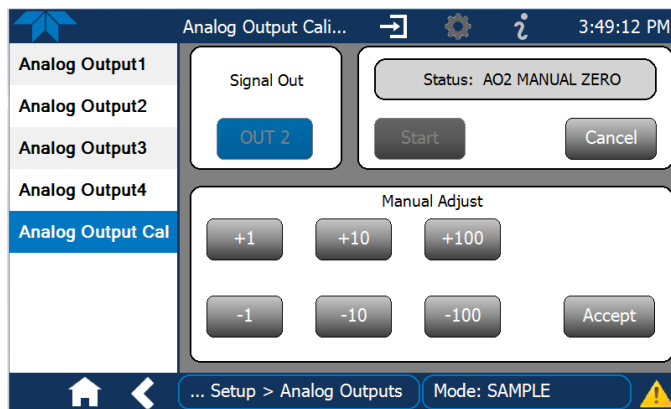
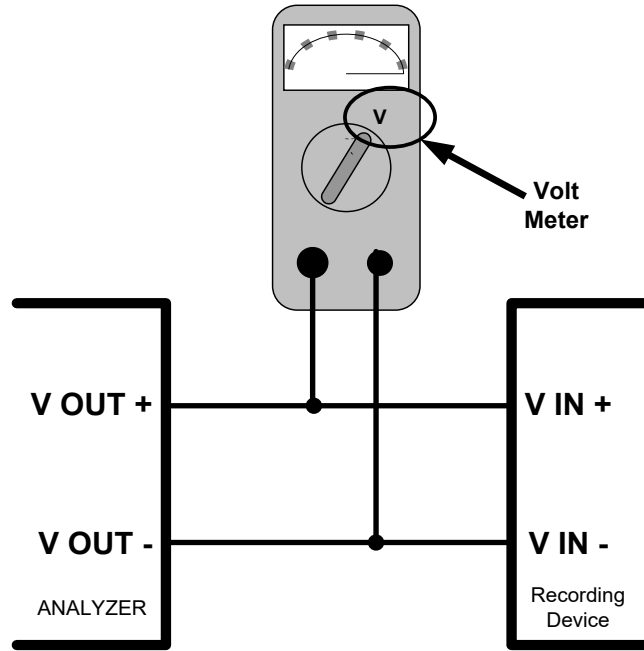

Figure 2-44. Analog Outputs Manual Calibration Screen (AO2 Example)
Figure 2-45. Setup for Checking / Calibrating DCV Analog Output Signal Levels
- MANUAL for individual calibration (Figure 2-44) of analog outputs where manual adjustments can be made (the only calibration type allowed when Current is selected for the Range). See Sections 2.5.8.1 and 2.5.8.2 .
It is possible to manually calibrate the voltages by using a voltmeter connected across the output terminals (Figure 2-45) and changing the output signal level in the Manual Adjust field of the Analog Outputs Calibration screen (Figure 2-44). Refer to Table 2-10 for voltage tolerances.